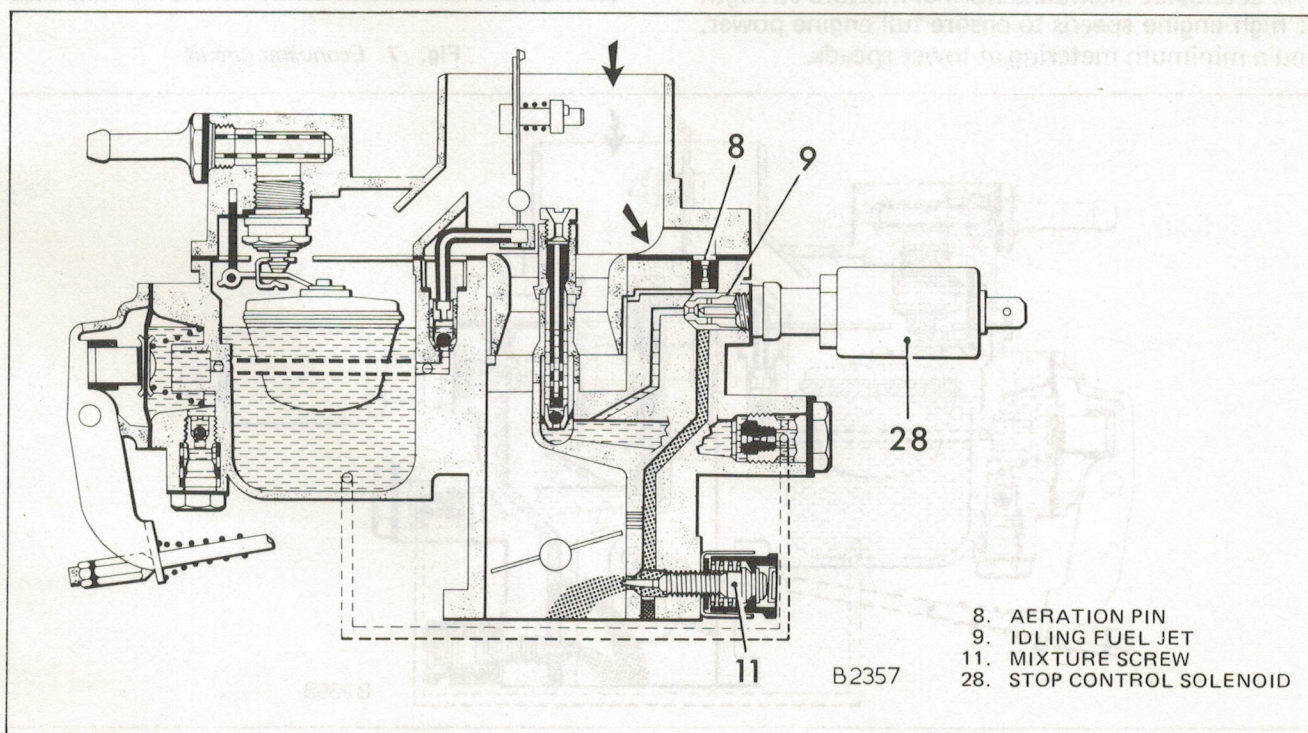

Fig. 4 Idling circuit
**Idling and Constant CO Circuit (Fig. 4 and 5)**
The idling system has two circuits. The principle circuit (Fig. 4) is through the orifice controlled by the conventional tamper proofed mixture screw (11). Fuel, metered by the main circuit and calibrated by the idling fuel jet (9) is emulsified by the air entering through the air channel aeration pin (8).